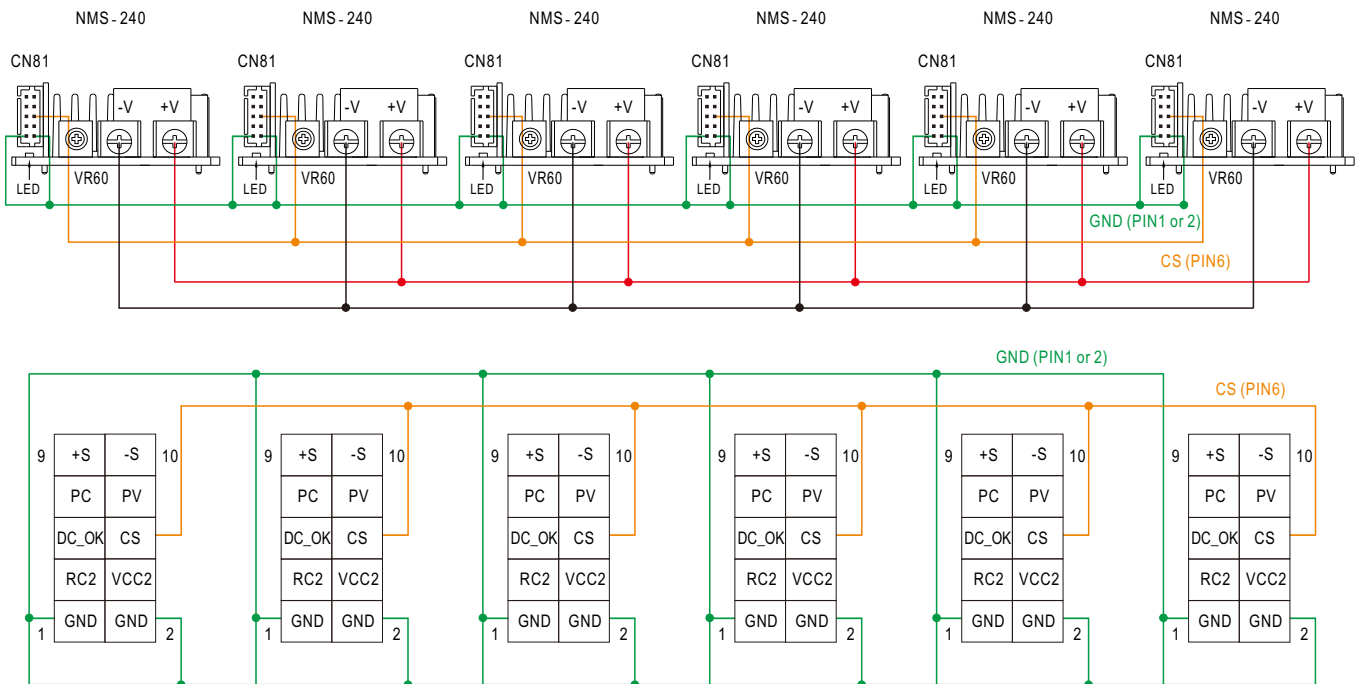

Figure 5-11
- In parallel operation, CS and GND pins of CN81 of all modules need to be connected in parallel as shown in Figure 5-11. Refer to A1.2 for more details on the connection accessory.
- When power modules are in parallel, output current programmable (PC) function shall NOT be in use.